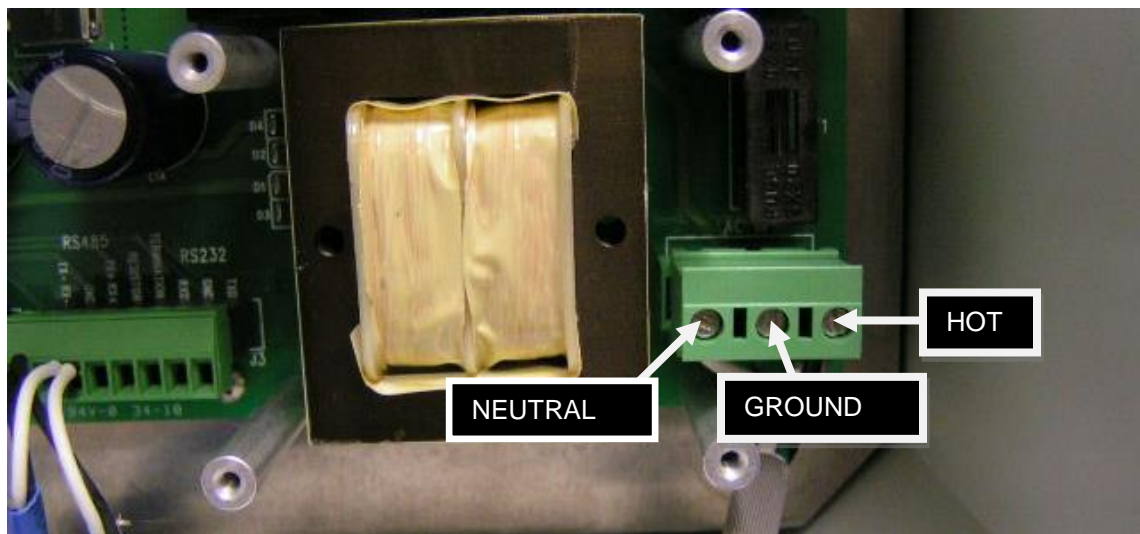

Figure 10 Power Terminal Block
7. Electrical power should be connected as shown in Figure 10. On the PC board, under the green connector, it is labeled from left to right, "NEU", "GND", and "HOT".